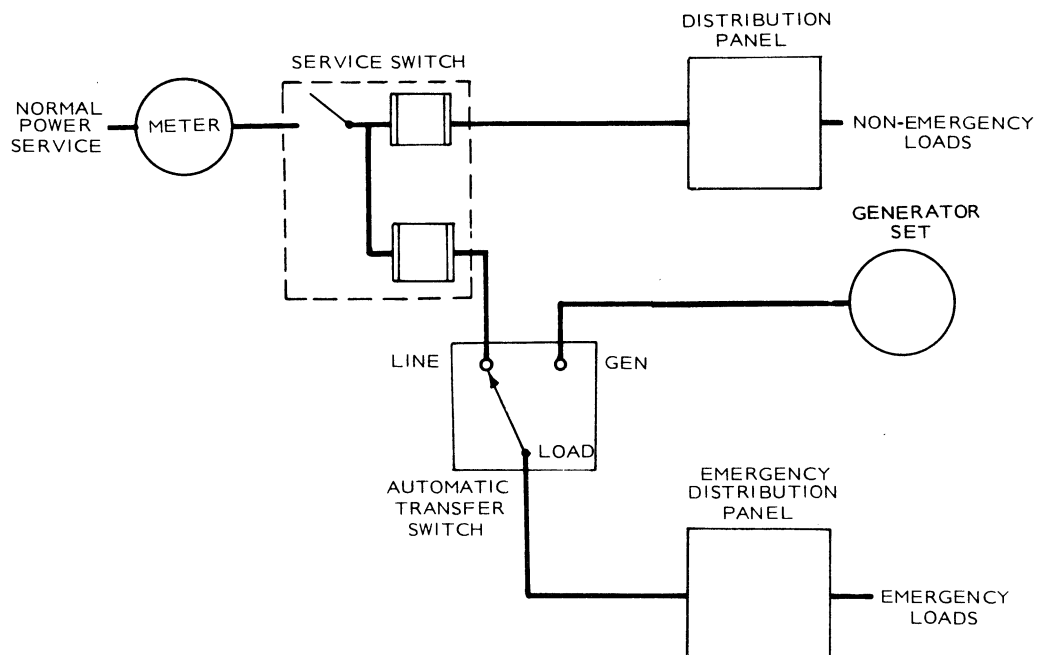

FIGURE 6. LIMITED PROTECTION WITH AN EMERGENCY DISTRIBUTION PANEL
2. Generator set protects part of electrical service (limited protection). See Figure 6.